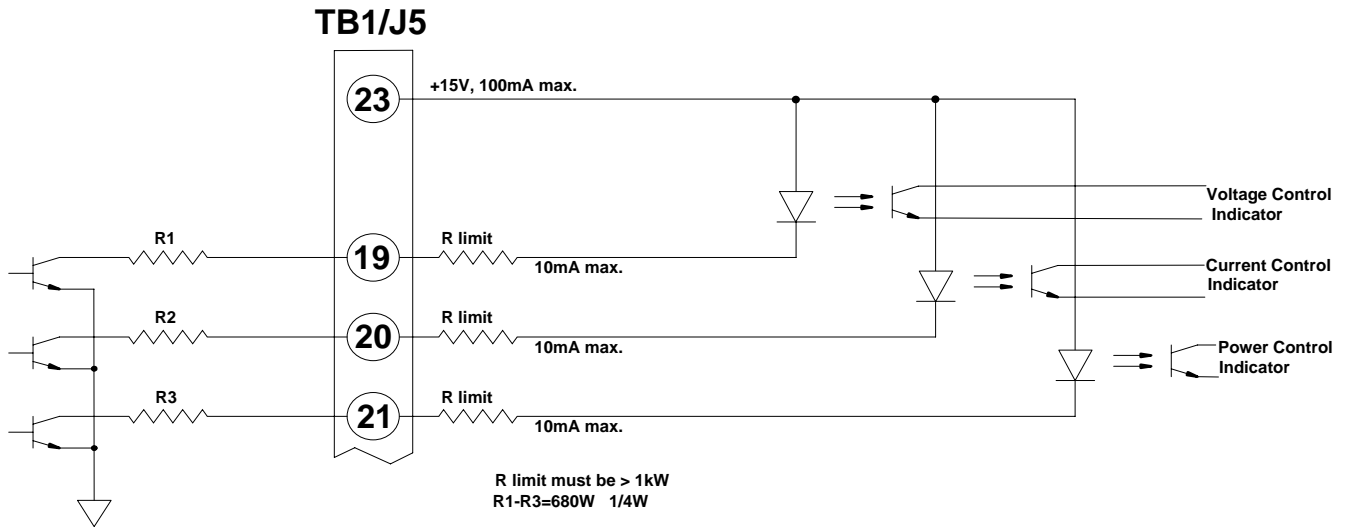

Figure 3.8 -- Remote Mode Indicators Interface
- **REMOTE MODE INDICATORS:** Signals are provided for remote indication of the control mode status, voltage control, current control, and power control. See Figure 3.8 on page 17 for the recommended interface.